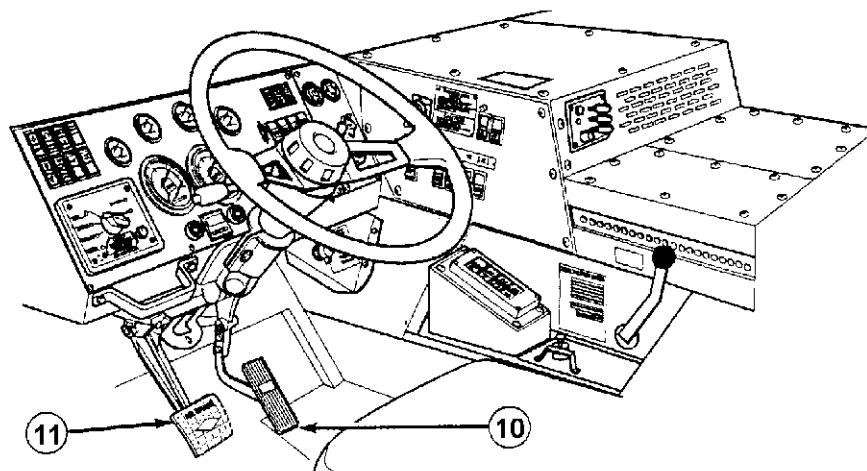

Figure 12. 16 Accelerator Pedal
- b. Apply moderate pressure on the service brake pedal (Figure 12. 15. (11)) to cause slight brake drag.
- c. When the brakes are dry and no longer slip, let up on the service brake pedal (Figure 12. 15. (11)).
- Let up on the throttle control (Figure 12. 16. (10)).